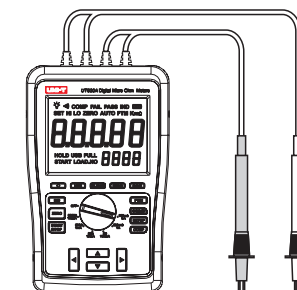

Figure 7
1. Connect 4-wire test leads to P1, P2,C1 and C2 terminals of the meter, See Figure 7